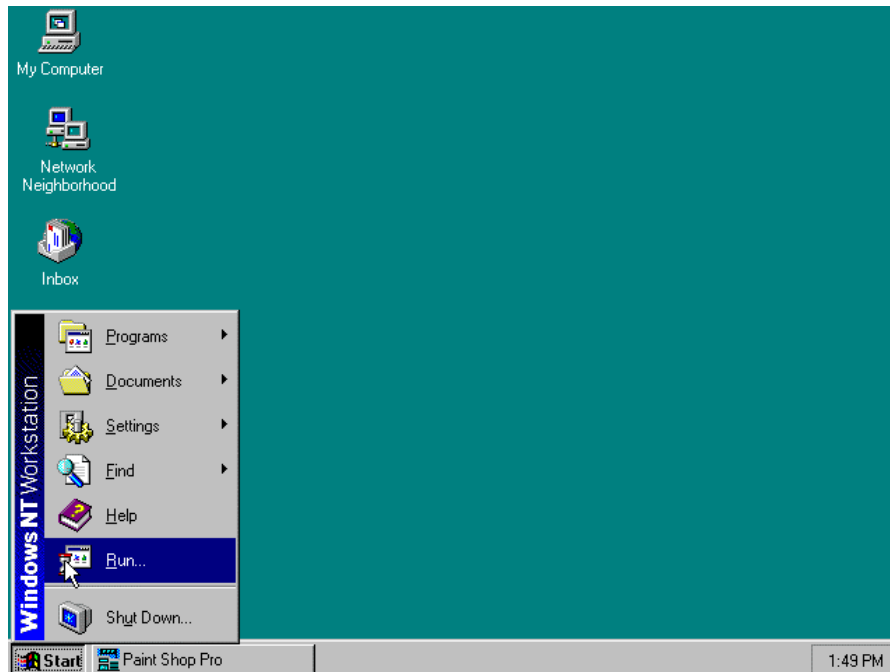

Figure 30 – Starting the Run dialog box
3. Select the **START**, then the **Run** option on the Windows NT® taskbar. See Figure 30.